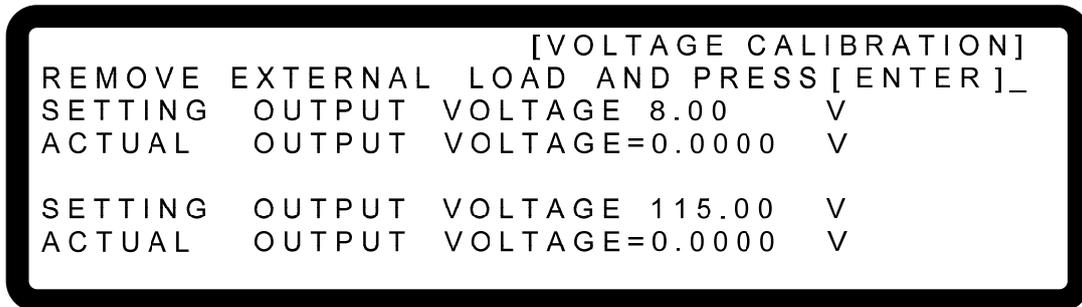

Figure 3-92
3. Press " " to confirm entering into voltage calibration options as Figure 3-92 shows.